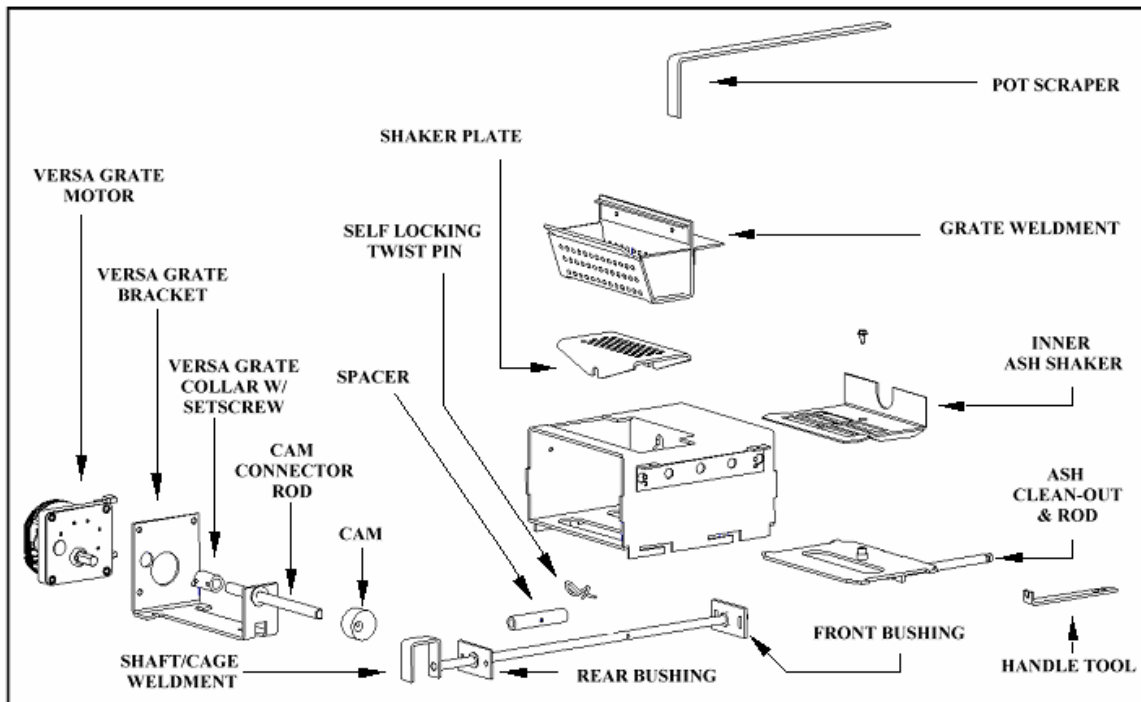

Figure 5
The Versa Grate System (see Figure 5 below). The benefit of this feature is that the stove can operate for longer periods of time, with most
First, let's become familiar with the burn system in a St. Croix Pellet stove. Remember, cleaning frequency may change dramatically from one fuel to another. Pellets with high ash content or that have increased amounts of impurities or high moisture content. Every St. Croix Pellet stove model will have the same system as shown in figure 5 below. There is a 2-piece burnpot. The top Part is called the **"Grate Weldment"**. This sits on top of the **"Shaker Plate"**. This in turn sits on top of the **"Shaft/Cage Weldment"** and is held in place with the **"Spacer"** & **"Self Locking Twist pin"**. The Shaft/Cage weldment is moved towards the front of the stove and then towards the back of the stove by the **"Cam"** that is connected to the **"Versa Grate Motor"**. This motion is constant, while the stove is in operation. The only parts that may need to be removed for cleaning purposes during the Daily or Periodic Maintenance are the **"Grate weldment"** and the **"Shaker Plate"**. This is to check the holes in the burnpot system to see if they are plugged.
1. Check Grate Weldment and Shaker Plate (See figure 5) to determine if holes are plugged. Clean as needed. With proper precautions the grate may be partially cleaned while the stove is hot. Follow these steps:
- d. Use the “scraper” provided to move the burning pellets to one side of the grate, leaving the ash in the bottom of the grate. (See Fig 5 & 6)
2. The Afton Bay has 3 Ash Traps/Clean-Outs, 2 of which are located below the rear brick panel. The third is located behind the Ash Pan. Remove covers and clean regularly. (See Figure 7 below) Be sure to clean both sides. Use scraper shown in figure 5 & 6 to scrape ash into ash pan. Use a vacuum (cold stove only) to thoroughly clean these areas.
3. Clean burn grate holes at least weekly. Remove the burn grate and use a small metal object to clean out plugged holes. (See fig. 5 on page 9.)